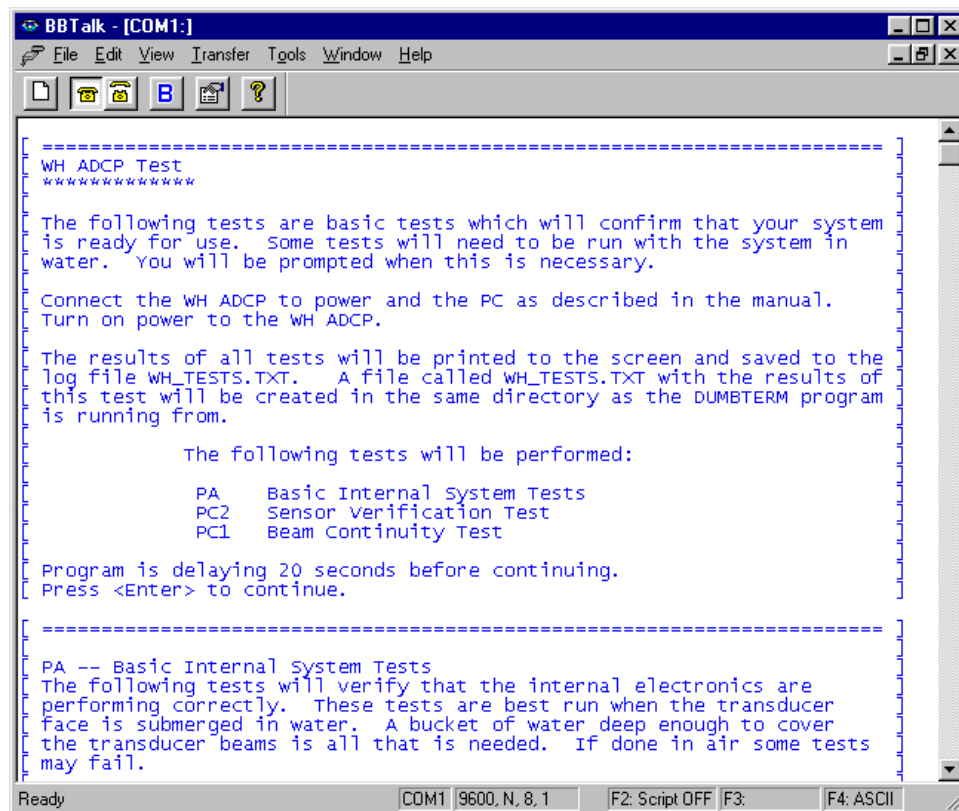

Figure 9. Running a Script File to Test the ADCP
- Follow the prompts on the screen (see Figure 9, page 14).